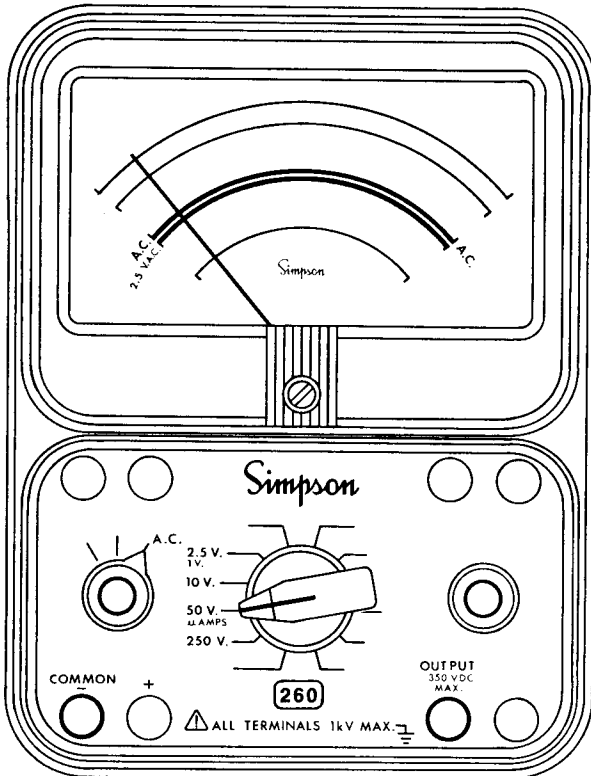

FIGURE 4-5. JACKS AND SWITCH POSITIONS FOR OUTPUT MEASUREMENT
- a. Set the function switch at AC (Figure 4-5).